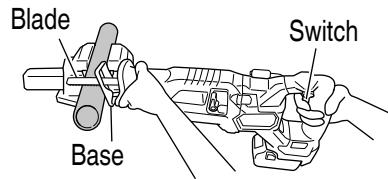

Fig. 12
- Do not remove the front cover. Be sure to hold the body from the top of the front cover (Fig. 12).